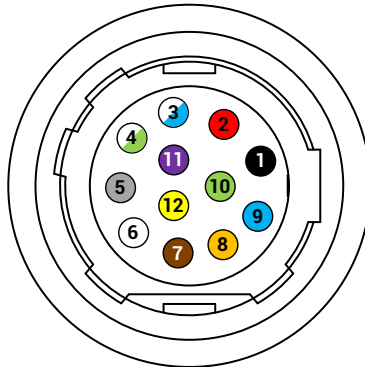

Figure 4-11 12-Pin P10 Connector
- The wire cores shown in figure 4-11 and table 4-3 are only the wire sequence and the corresponding wire core color of the cables sold by our company. If the cables are not purchased from our company, please refer to the actual wire sequence and the corresponding wire core color.